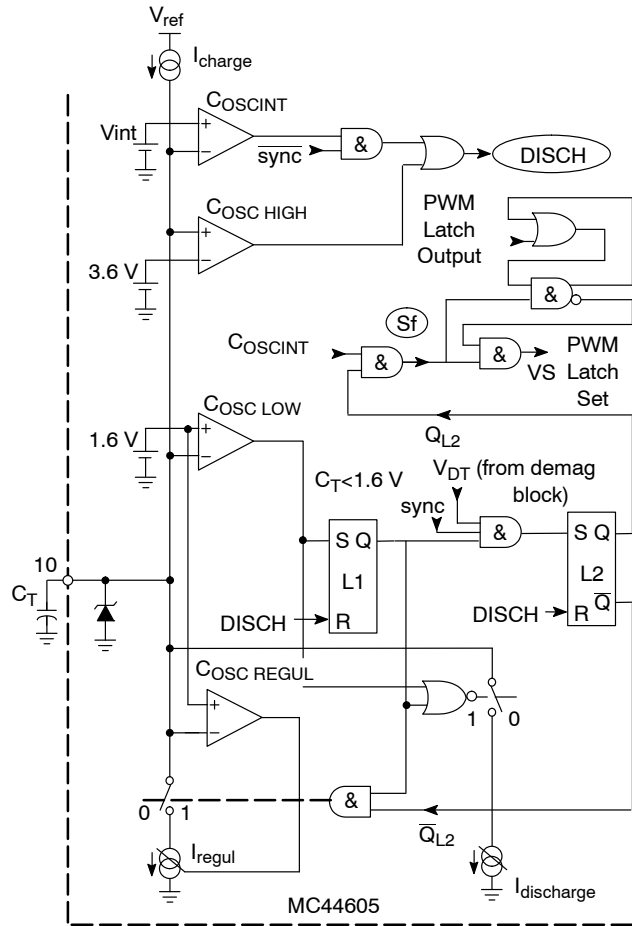

Figure 5. Oscillator
**Oscillator Section** (Figures 5 & 5b)